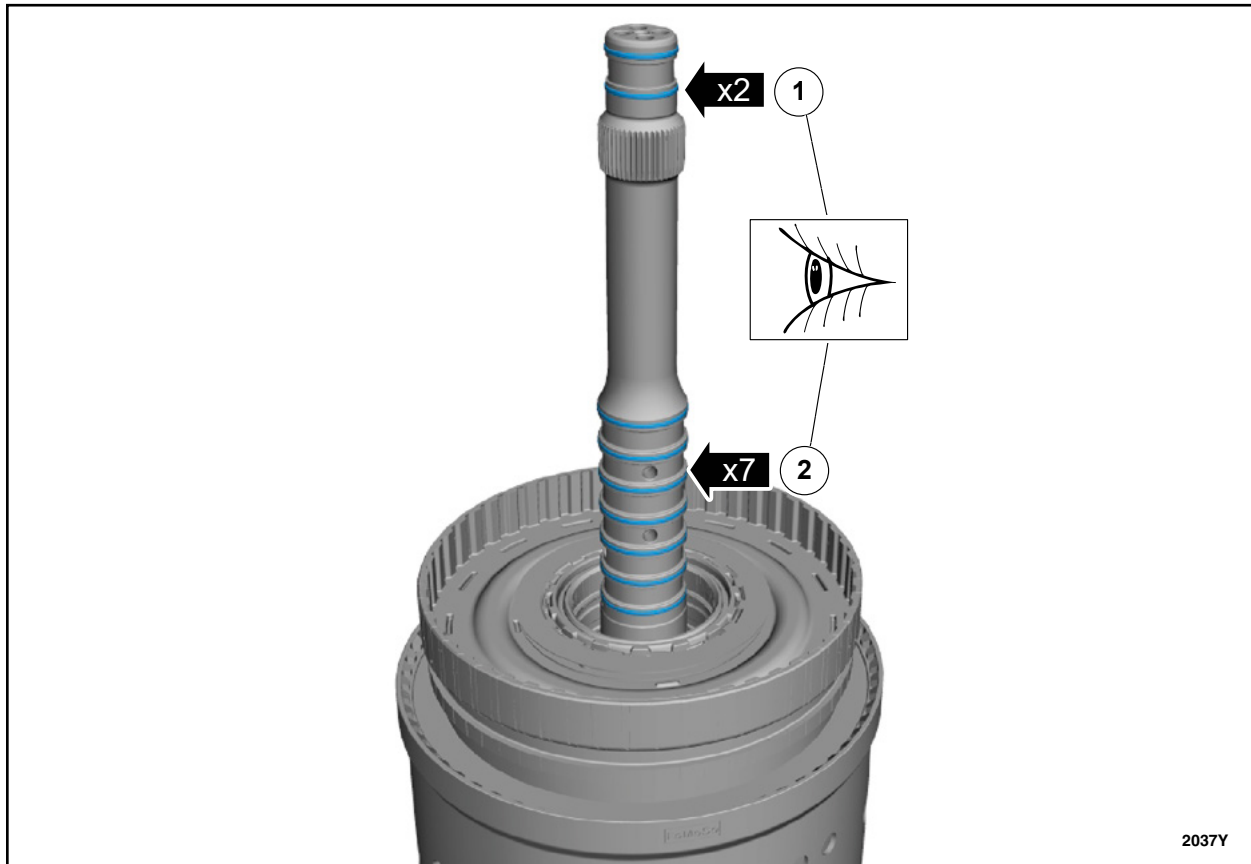

FIGURE 18
20. Inspect the input shaft seals for damage. See Figure 18. Do any of the input shaft seals show signs of damage?